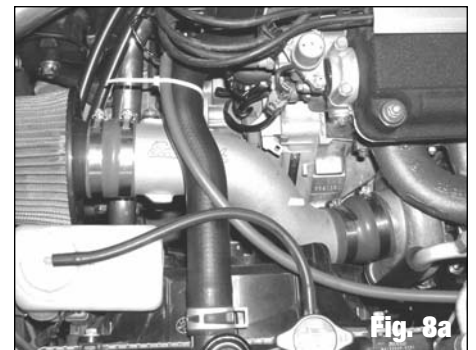
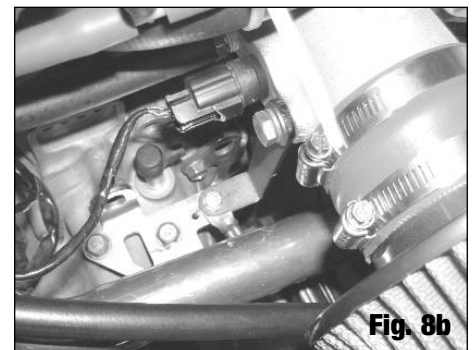

Fig. 8a
Fig. 8b
- Press the Manifold Air Temperature sensor grommet into the non-threaded hole in the compressor inlet pipe. Install a 3/8" barb x 1/4" NPT fitting into the threaded hole in the pipe. Fit the Compressor Inlet Pipe to the compressor inlet using the supplied silicone coupling and clamps (**See Fig. 8a**). Do not fully tighten. Adjust the compressor Inlet pipe for alignment, and using the Compressor Inlet Pipe support brace, connect the support brace to the compressor inlet pipe using the 6mm x 1.0 (12mm long) bolt. Hand tighten. Find the ground wire bracket on the transaxle housing. Remove the bolt that attaches the ground wire to the bracket and attach the support brace and ground wire to the bracket using this bolt (**See Fig. 8b**). Tighten all nuts/bolts and hose clamps. Connect Air Filter Assembly to the compressor inlet pipe using the supplied silicone coupling and hose clamps.